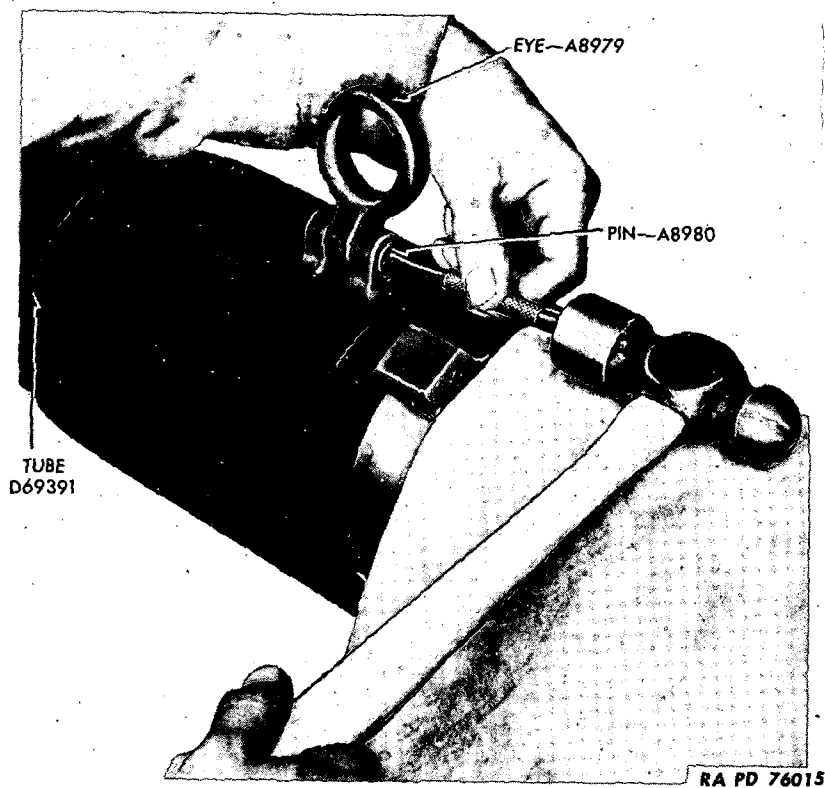

Figure 35—Removing Lifting Eye
(1) Clean tube assembly thoroughly.
(2) Inspect the tube assembly as outlined in paragraphs 7, 8, 9, 10, and 11.
(3) **DAMAGED LIFTING EYE.** Remove the damaged lifting eye by driving out the retaining pin (fig. 35). Place new lifting eye in position and secure with pin.